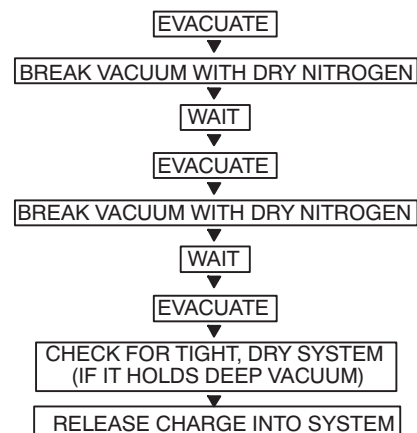

Fig. 28 —Triple Evacuation Method
The triple evacuation method should be used. Refer to Fig. 28 and proceed as follows:
5. Repeat this procedure as indicated in Fig. 28. The system should now be free of any contaminants and water vapor.